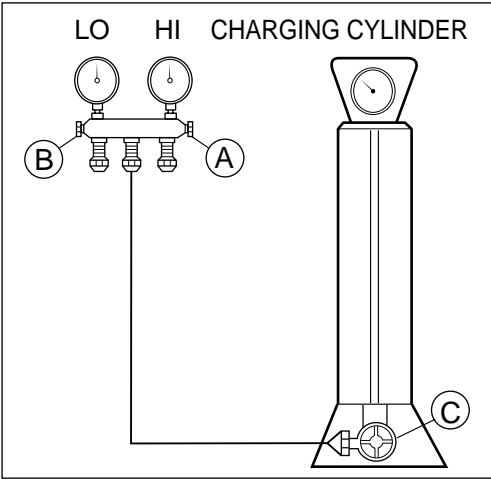

Figure 31B-Charging
- 7-2. Connect the charging cylinder as shown in figure 31B. With valve C open, discharge the hose at the manifold connection.